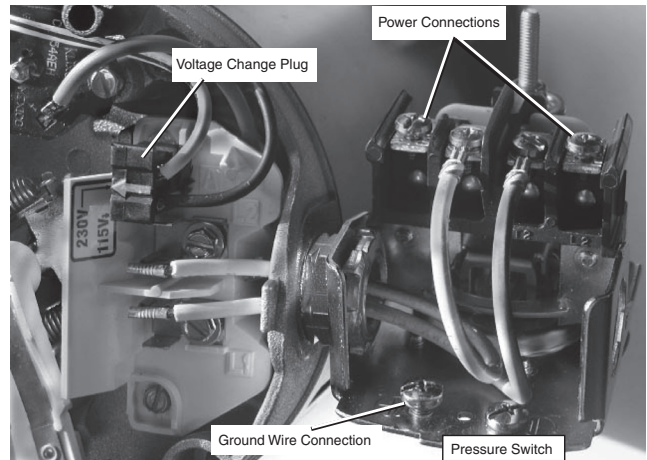

Figure 6 - Voltage set to 230 V, Plug Type
4. Attach the incoming power leads to the two outer screws on the pressure switch as shown in Figure 6.
5. Attach the ground wire to one of the grounding connections, shown in Figure 6.
4. Connect the power supply wires to the pressure switch as shown in Figure 6.